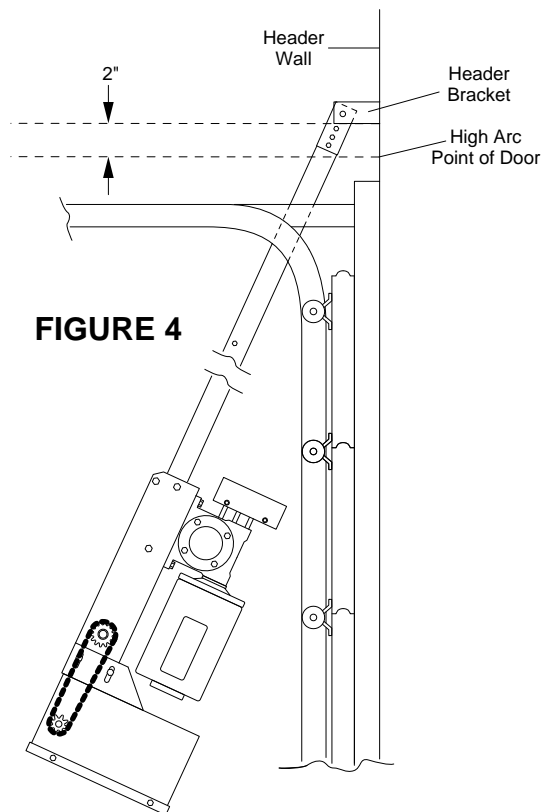

FIGURE 4
8. Close the door and refer to Figure 4. Position operator chassis on the floor with the bottom edge of header bracket 2" above horizontal mark and centered on vertical line. Mark mounting holes.